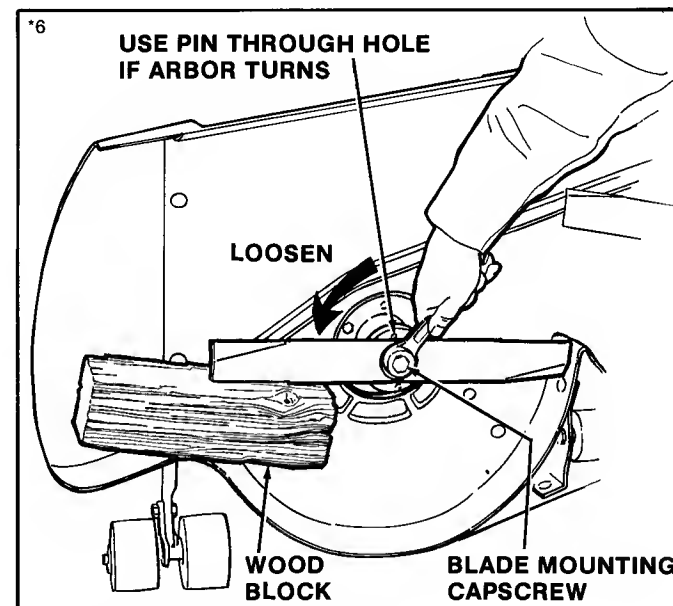

Figure 20. Removing Blade
1. Remove mower from tractor and position as in figure 20. Secure the mower so it will not fall.
3. Use wooden block to hold blade while removing capscrew (figure 20).